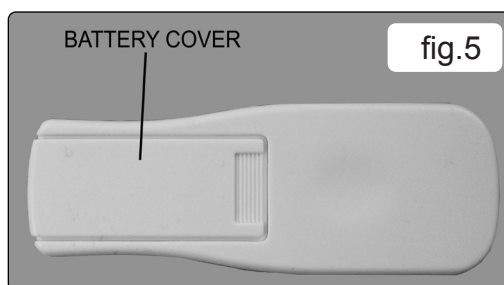

fig.5
- 4.3.1. To use remote control, open the cover on the back of the remote control unit fig.5, and insert 2 x AAA batteries ensure they are correctly position according to polarity see diagram in battery compartment.